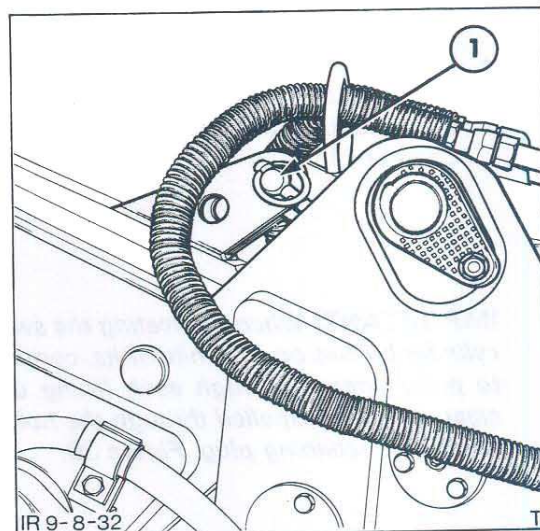

Figure 32
2. Retract the dipstick and install the transport pin to lock the sliding components of the dipstick together, Figure 32.